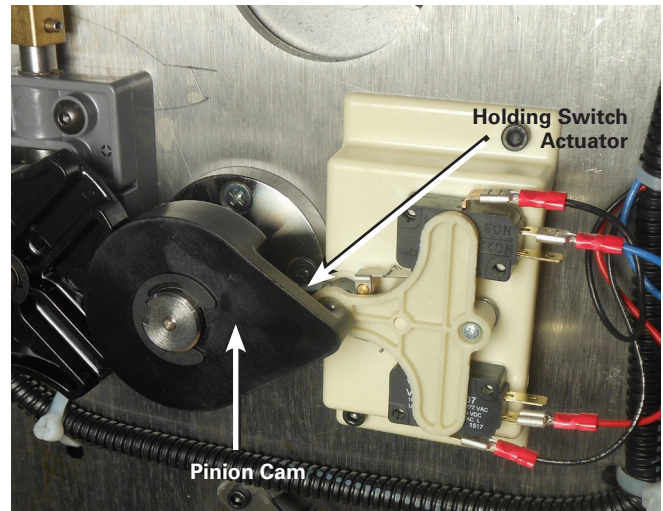

Figure 11. Neutral position for position indicator pinion cam and holding switch.
- C. The pinion cam is pointing to the right over the holding switch actuator. See Figure 11.